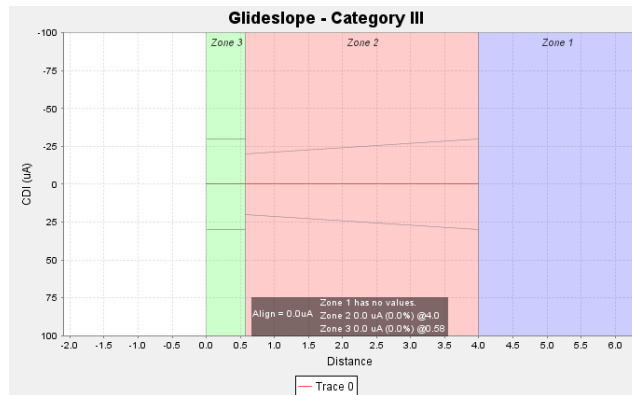

Figure 138: An example of a CATIII analysis.
**22.1.2.1.0.0.1 CAT III** Figure 138 shows an example of a CAT III plot.